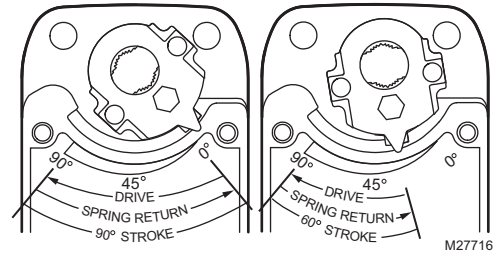

Fig. 5. Stroke reduction.
3. Rotate the coupling to the desired position, aligning it based on the stroke labelling. See Fig. 5.
EXAMPLE: Setting shaft coupling to an approximate fail-safe position of 35 degrees (as indicated on the housing) limits stroke to 60 degrees. (See Fig. 5)